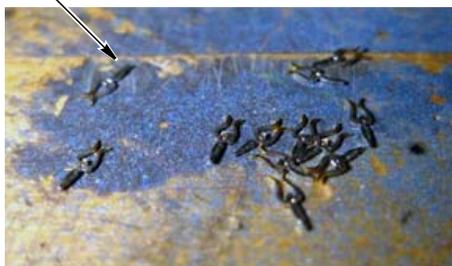

Figure 4
3. Set the pin and pin vise so that the exposed length of the compliant pin contacts will be approximately the same as the thickness of the pc board. From the back of the pc board, use the pin to push each compliant pin contact out of its pc board through hole (the contact retention force is low enough to remove the compliant pin contacts manually). The compliant pin contacts can remain in or pop out of the organizer—either way, they must be released from the pc board. See Figure 4.